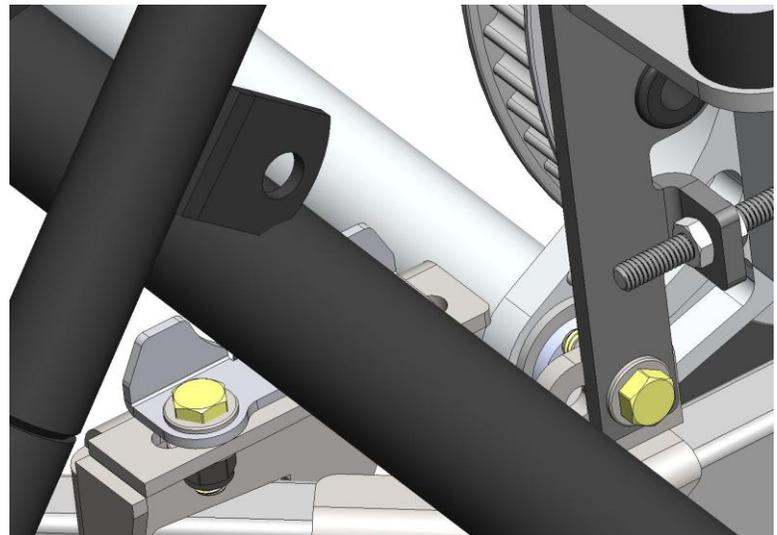

Figure 21
- a. Install 3/8-24x1.25 bolts, washers and nuts through Anti-roll bar housing onto front frame. Position the anti-roll bar on the frame so that the rod ends will be about vertical when attached to the control arms. Torque to 30 ft-lb. **Figure 21**